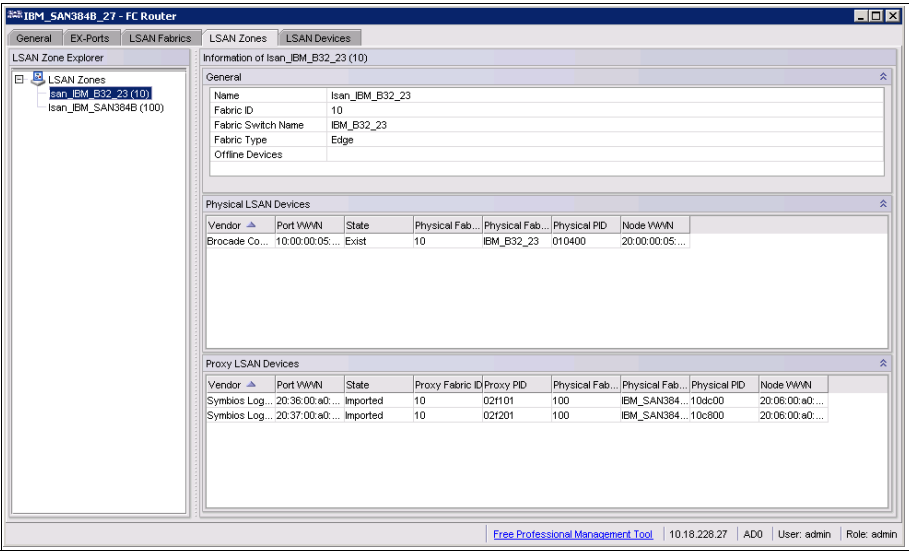

Figure 9-18 LSAN Fabric at the edge
3. Verify the LSAN Fabric at the edge. See Figure 9-18.